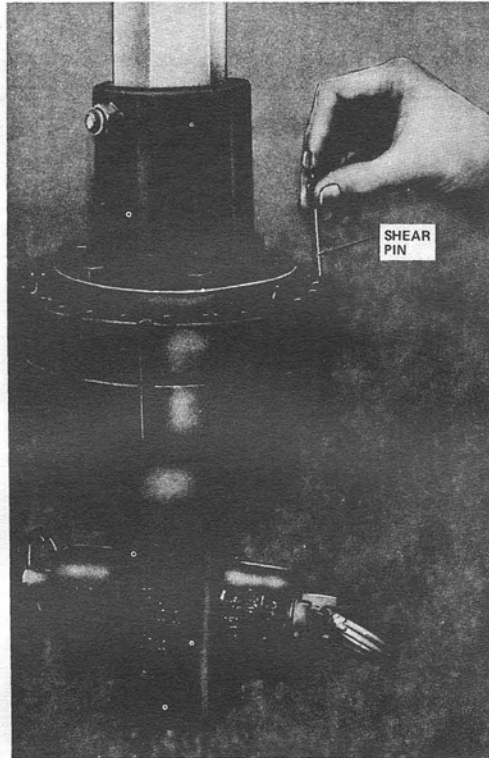

Fig. 7—Loading B Torque Indicator
4.03 When using a heavy duty digger, determine the torque value needed for the anchor installation and load the B torque indicator as required. See Table A and Fig. 7. Each pin is rated at 500 foot-pounds torque capacity.